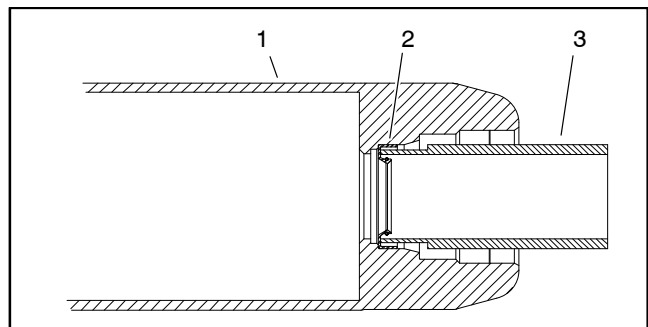

Figure 48
1. Install inner seals into roller tube making sure that seal lip (and garter spring) faces end of tube. Use inner seal tool (see Special Tools) and soft face hammer to fully seat seals against roller shoulder (Fig. 48). Apply a small amount of grease around the lip of both inner seals after installation.